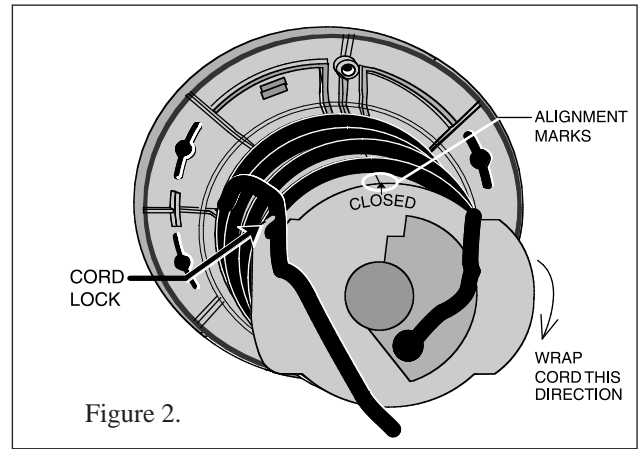

Figure 2.
- 5. Install the Underwater Light by rotating the light in a clockwise direction towards the niche, when viewed from front. Wrap the cord in a single layer around the light. Start wrapping the cord at the rear of the housing and work towards the face ring, see Figure 2.
6. When the Underwater Light is level with the niche secure the cord in the cord lock on the base of the light, see Figure 2.
9. Install the Underwater Light by rotating the light in a clockwise direction towards the niche, when viewed from front. Wrap the cord in a single layer around the light. Start wrapping the cord at the rear of the housing and work towards the face ring, see Figure 2.
10. When the Underwater Light is level with the niche secure the cord in the cord lock on the base of the light, see Figure 2.